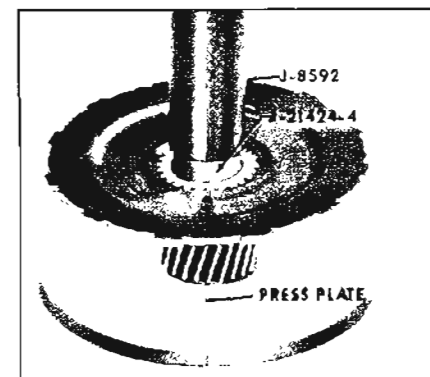

Figure 5-225
13. Check low sun gear and flange assembly bushing for nicks, severe scoring, or wear. If bushing replacement is necessary proceed as follows: Support low sun gear assembly on press plate using Tool J-21424-4 and Drive Handle J-8092 press out bushing. See Figure 5-225.